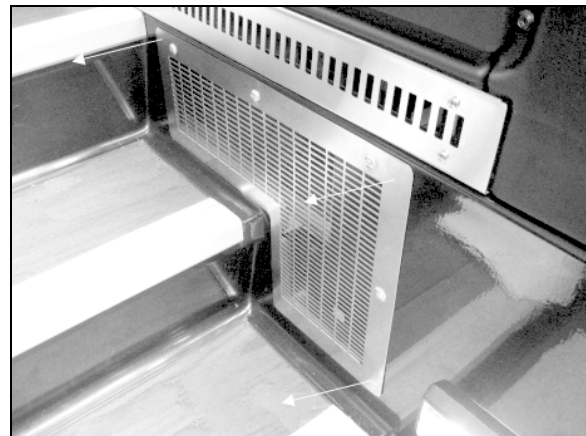
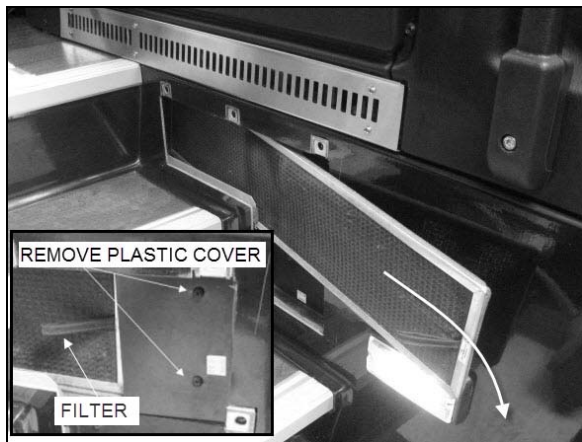

FIGURE 16: DRIVER'S HVAC UNIT ACCESS GRILL
FIGURE 17: REMOVING RECIRCULATING AIR FILTER
The driver's HVAC unit is located behind the dashboard's R.H. side panel. To gain access to the A/C filters, unscrew the grille located at the top entrance step (FIGURE 16). Unscrew the plastic cover and slide out the recirculating air filter (Figure 17). Doing so will give you access to the fresh air filter (see item 18, Figure 51).